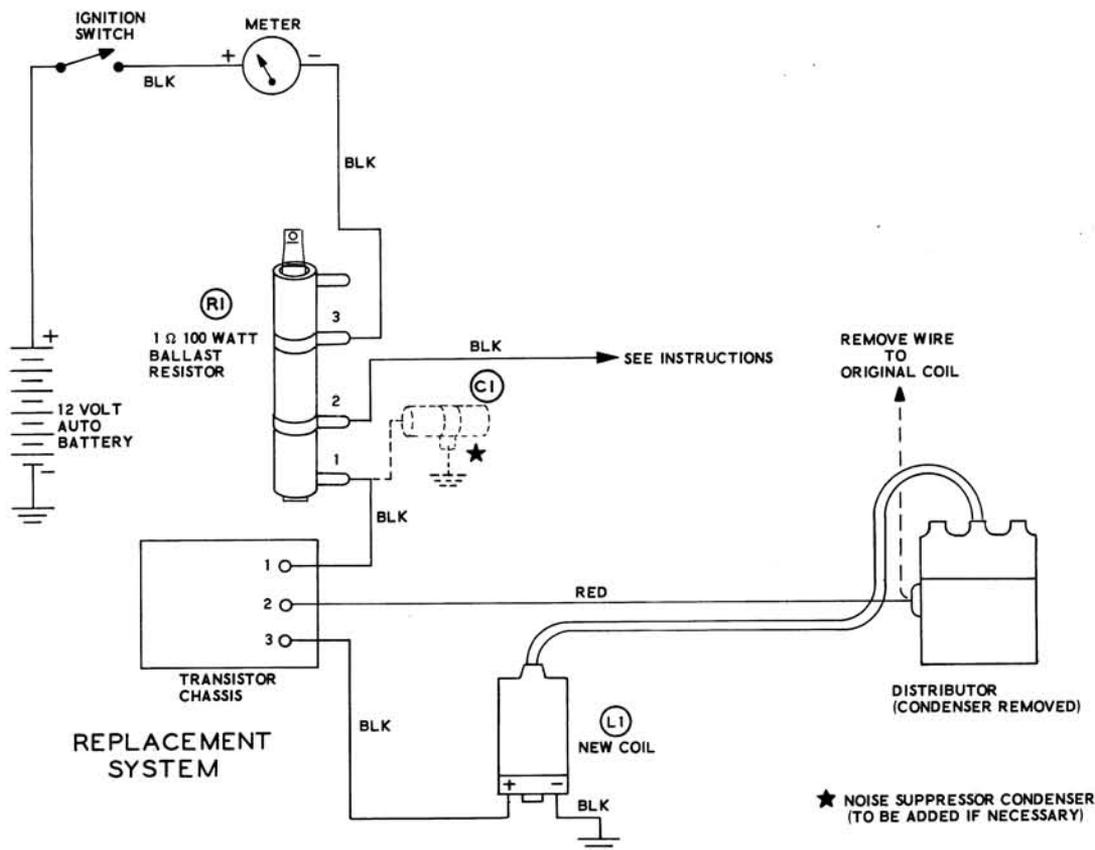
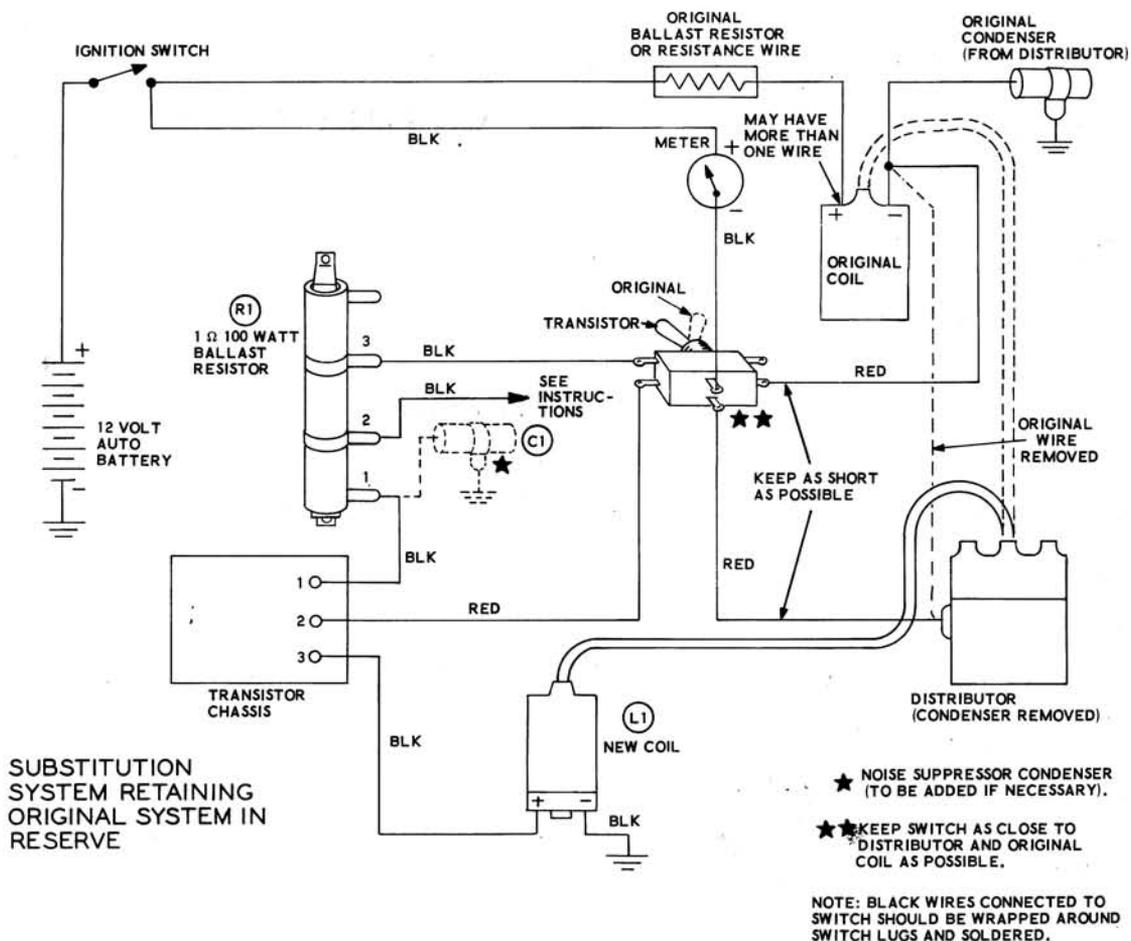

Figure 1
Figure 2
The Ignition System can be installed in a number of ways. Figures 1 through 4 show four wiring variations, one of which should be suitable for any installation requirement.
For the installation shown in Figure 2, a black wire should be installed in addition to the original ignition wire.
Figures 1 and 3 actually replace the original ignition system of the car, whereas Figures 2 and 4 are substitution systems, thus retaining the original system in reserve in case you desire to switch it back in. In Figures 2 and 4, in order to switch from the transistor system to the original, all that has to be done is to flip the switch and connect the high tension wire from the distributor to the proper coil.
This condenser must be used with the original ignition system by connecting it to the original coil if Figure 2 or 4 is followed.
Also if Figure 2 or 4 is followed, the switch must be mounted as close to the distributor as possible to keep the distributor and original coil wires short, to hold ignition noise (radio interference) down as much as possible.
- () For the circuit shown in Figure 2, 3, or 4, connect a wire from this point in the original